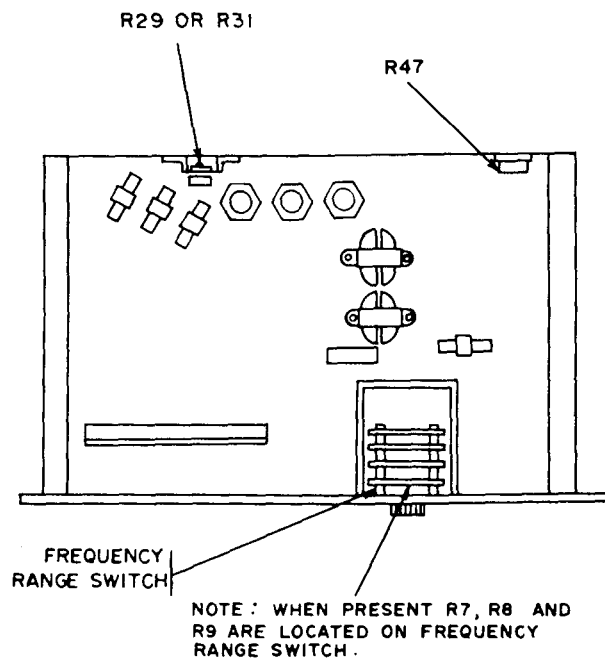
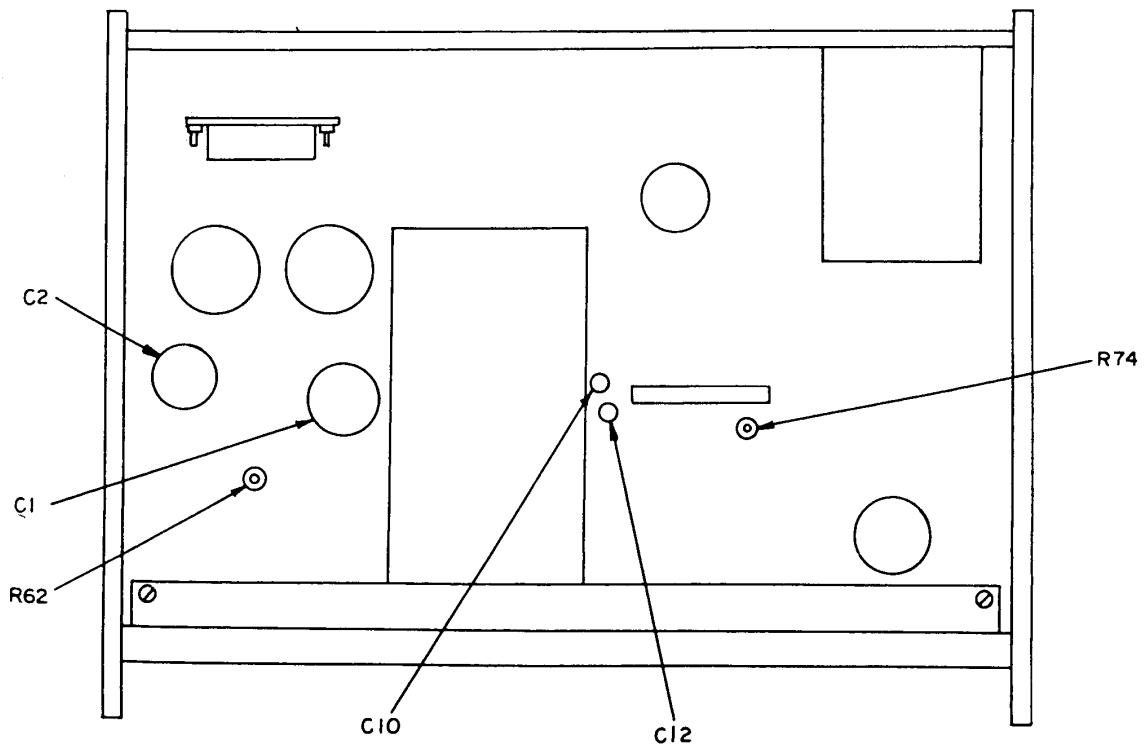

Figure 2. Test instrument - bottom view.
Figure 3. Test instrument - (TS-421C/U and model F370A).
(6) Adjust R8 (fig. 2) for a 200-Hz indication on frequency counter (R).
(7) Turn **FREQUENCY** dial to **200** and adjust either C1 or C2 (C10 and C12 on TS-421C/U and model F370A) as applicable for a 2000-Hz indication on frequency counter. If provided, adjust both C1 and C22 (C10 and C12 for TS-421C/U and model F370A) for best compromise between frequency counter indication of 2000 Hz and digital voltmeter indication of 50 V (R).
(8) Repeat a(1) through (7) above.
(9) Set **FREQUENCY RANGE** switch to **X100** and turn **FREQUENCY** dial to **20**.
(10) Adjust R7 (fig. 2) for a 2000-Hz indication on frequency counter (R).
(11) Set **FREQUENCY RANGE** switch to **X1** and turn **FREQUENCY** dial to **100**.
(12) Adjust R9 (fig. 2) for a 100-Hz indication on frequency counter (R).
(1) Adjust **AMPLITUDE (OUTPUT)** control for a 54.86-V indication on digital voltmeter.
(2) Adjust R29 (fig. 2) (R31 on some models) (R74 on TS-421C/U and model F370A, fig. 3) for a +37-dB indication on **OUTPUT LEVEL** meter.
- (1) Adjust **AMPLITUDE (OUTPUT)** control for a 2.0-V ac indication on digital voltmeter.
(2) Adjust R47 (fig. 2) (R62 (fig. 3) on TS-421C/U and model F370A) for a 2.0-V ac indication on **INPUT LEVEL** meter (R).